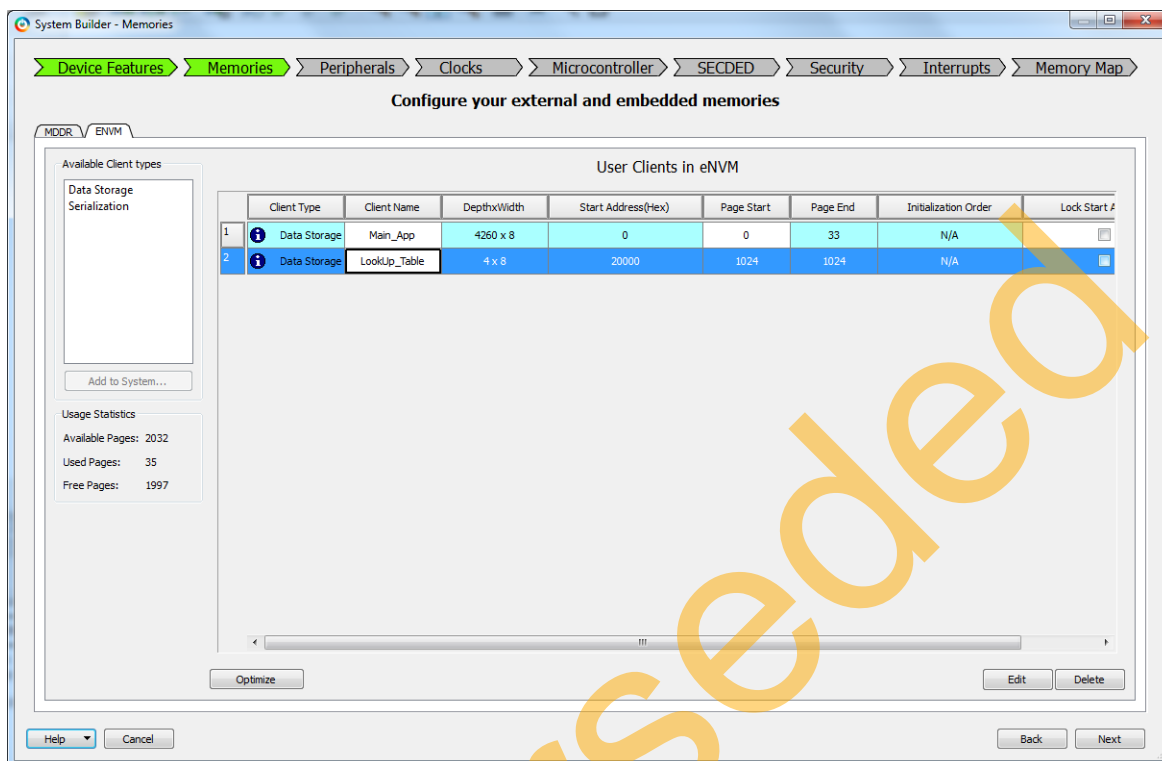

Figure 20 • System Builders - Memories Page
9. In the **System Builder - Memories** page (see Figure 20), keep the other settings to default and click **Next**.